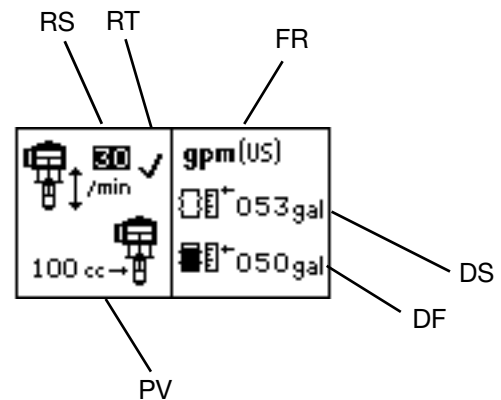

FIG. 30: Setup Screen 1
Use Setup screen 1 to set runaway cycle rate (RS), enable/disable runaway protection (RT), select pump volume per cycle (PV), select flow rate units (FR), enter drum size (DS), and enter drum fill volume (DF). See FIG. 30.
NOTE: When runaway protection is enabled (RT), a ✓ will appear on the setup screen. See FIG. 30.
NOTE: To disable runaway monitoring, go to setup mode and set runaway value to 0 (zero) or toggle (RT) off. See FIG. 30.